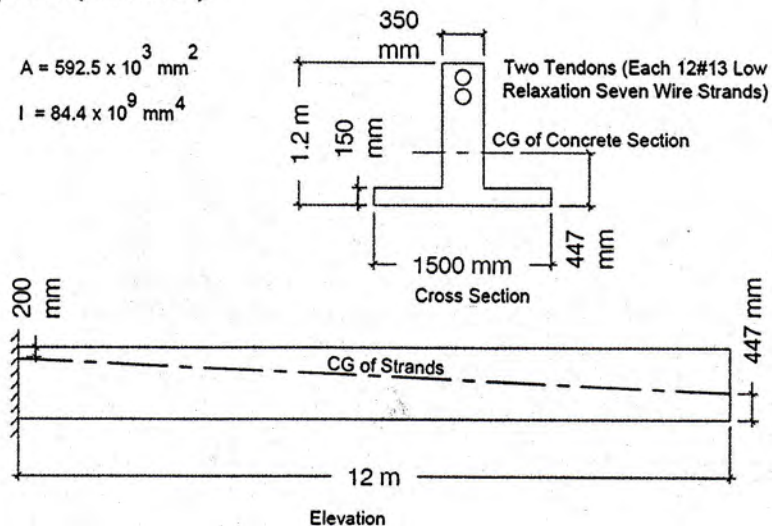

Fig. 2
- (c) A beam having an inverted T cross section is to be designed to carry a service live load of 17 kN/m and superimposed dead load of 6 kN/m in addition to its own weight, on a 12 m cantilever span as shown in Fig. 2. The member will be post-tensioned using two 65 mm tendons each composed of 12#13 low relaxation seven wire strands ($f_{po} = 0.75 f_{pu}$). Concrete strength at 28 days is specified to be 30 MPa. Prestress losses can be estimated as $P_i = 0.95 P_o$ and $P_e = 0.90 P_o$. Calculate the fiber stresses after long-term losses have occurred (total load and P_e) in the concrete at the support and at the free end. Are these stresses acceptable (ACI code)? 15
- (c) Calculate the ultimate capacity of the beam shown in Fig. 2. If the capacity is 13 13